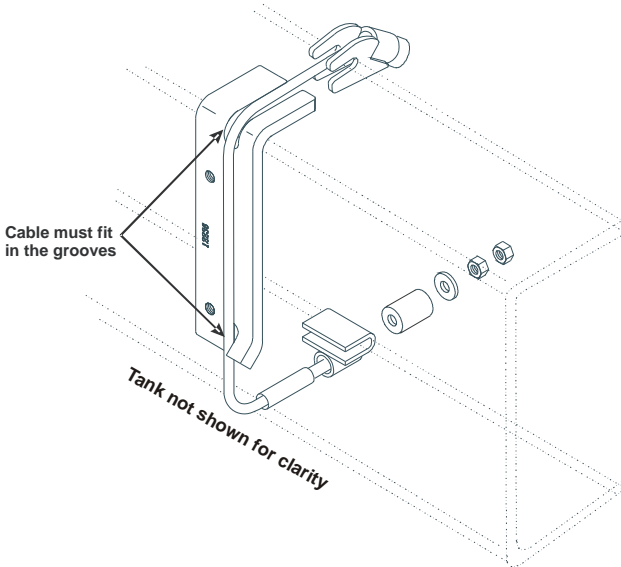

Figure 3.3
- Route the cable straps through the grooves on the tank mount brackets and under the frame (Figure 3.3).